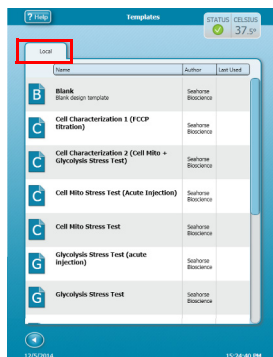

Figure 3. Local tab
- 2 Select a template provided by Agilent to perform a specific assay. These templates can be found in the **Local** tab. See **Figure 3**.